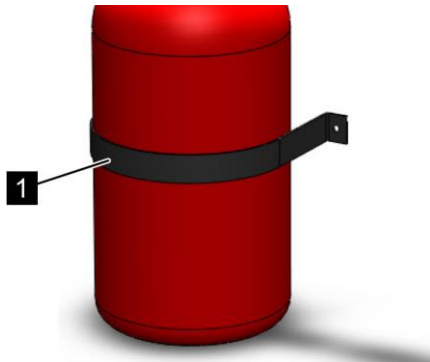

Fig. 186: Check fastening
1. ➤ Check whether the clamp (Fig. 186/1) is correctly fastened on bearing structural elements.